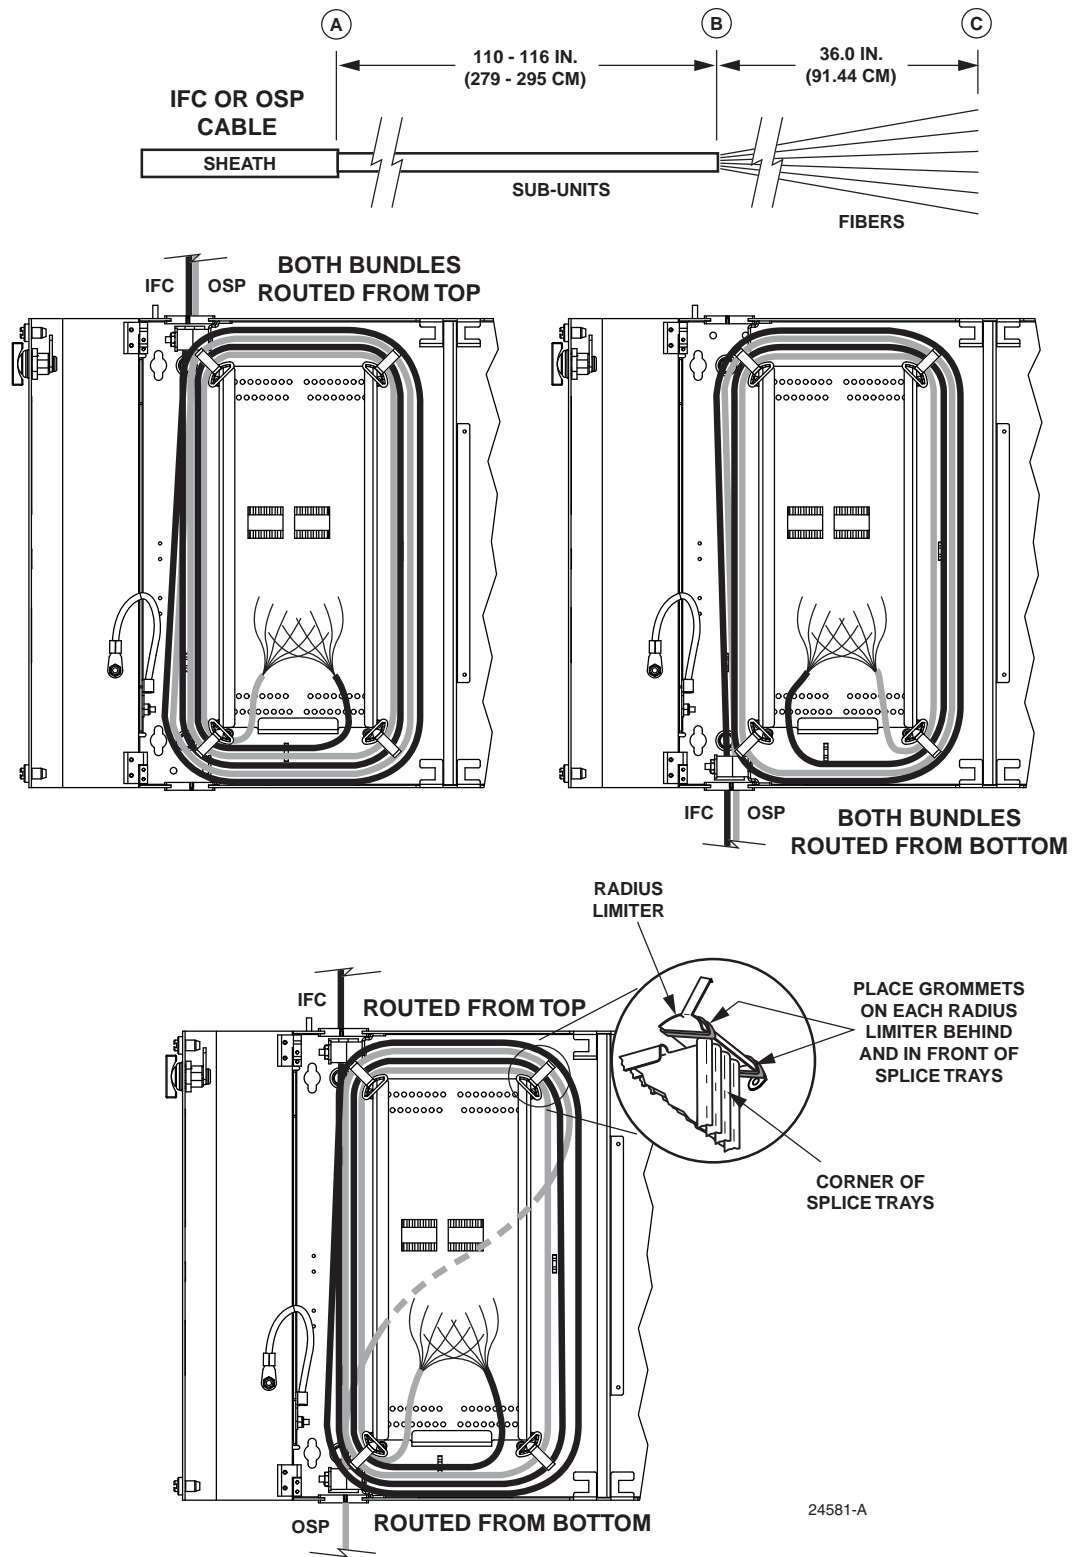

Figure 26. Routing within 48-Fiber Splicing Wall-Mount Box
Figure 26 shows the three routing options within the chassis for the 48-fiber splicing wall-mount box. At least two cables are always involved. They may both enter from the top, both enter from the bottom, or enter from both top and bottom, on the left side. If from top and bottom, then an “S” curve, under the splice tray, must be used to reverse the direction of one cable so that they may both enter the splice tray from the bottom.
2. Strip the outer sheath of the cables to expose the inner fiber bundles as shown in Figure 26 above. The cable sheath should extend about 0.75 inch (1.9 cm) beyond the cable clamp or compression fitting.
6. Route the fibers within the wall-mount box as shown in Figure 26 and tie the fibers down in the location shown using cord lacing.
6. Place the splice trays back in the splice deck and place grommets on the radius limiters above the splice trays to hold it in place within the splice deck (see Figure 26 insert).